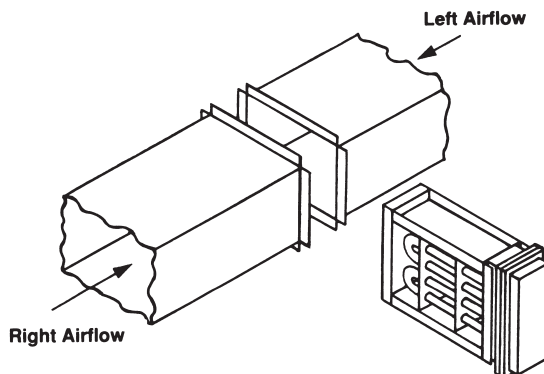

Figure 87. Standard Flanged Heater Installation
1. **Construction Type** – Standard flanged or optional slip-in. See Figures 87 and 88.